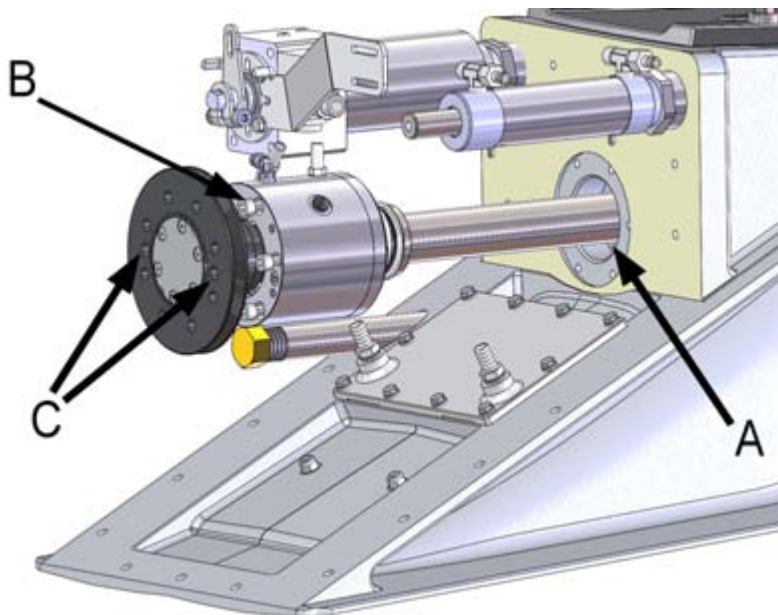

Figure 26. Attaching the bearing housing
3. Push the shaft bearing into place through the hole in the jet's frame (figure 26, point A) and tighten the bearing housing fastening screws (6 pcs, figure 26, point B) through the holes in the drive flange using a long Allen wrench (figure 26, point C). Use a thread locking compound (such as Loctite 242).